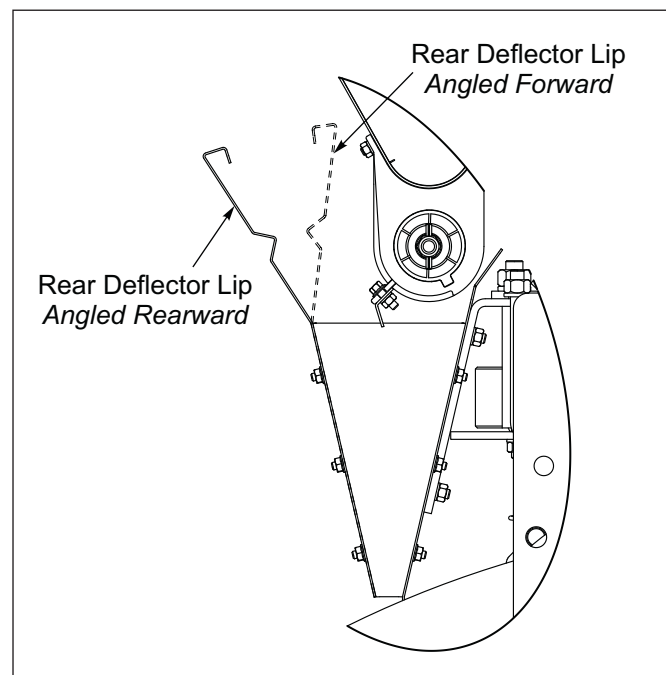

Figure 2-55: Deflector Flipped
10. Remove Rear Deflectors. Turn Rear Deflectors around so that the lip angles rearward. Re-install Rear Deflectors. **See Figure 2-55.**